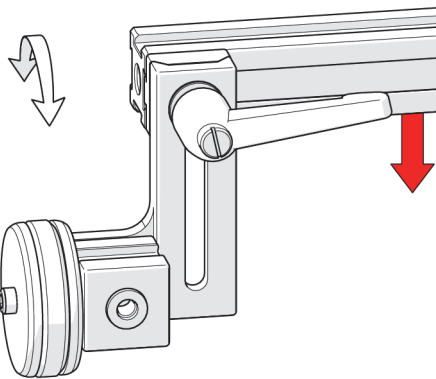
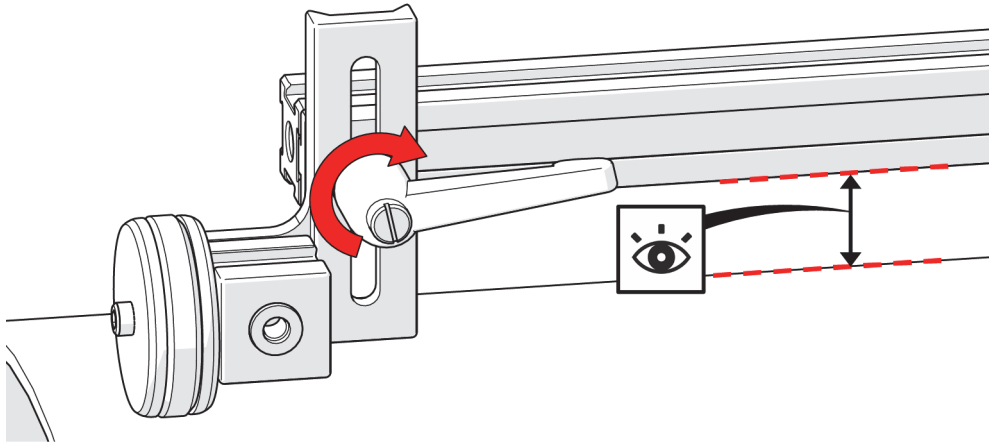

Figure 2-21 Position frame bar horizontally
Figure 2-22 Tighten lever when frame bar is parallel with inspection surface
3. Adjust the height of the stabilizer wheel's frame bar mount to ensure the frame bar is parallel with the inspection surface (see Figure 2-21 on page 51 and Figure 2-22 on page 52).
4. Tighten the black ratchet lever (see Figure 2-22 on page 52).